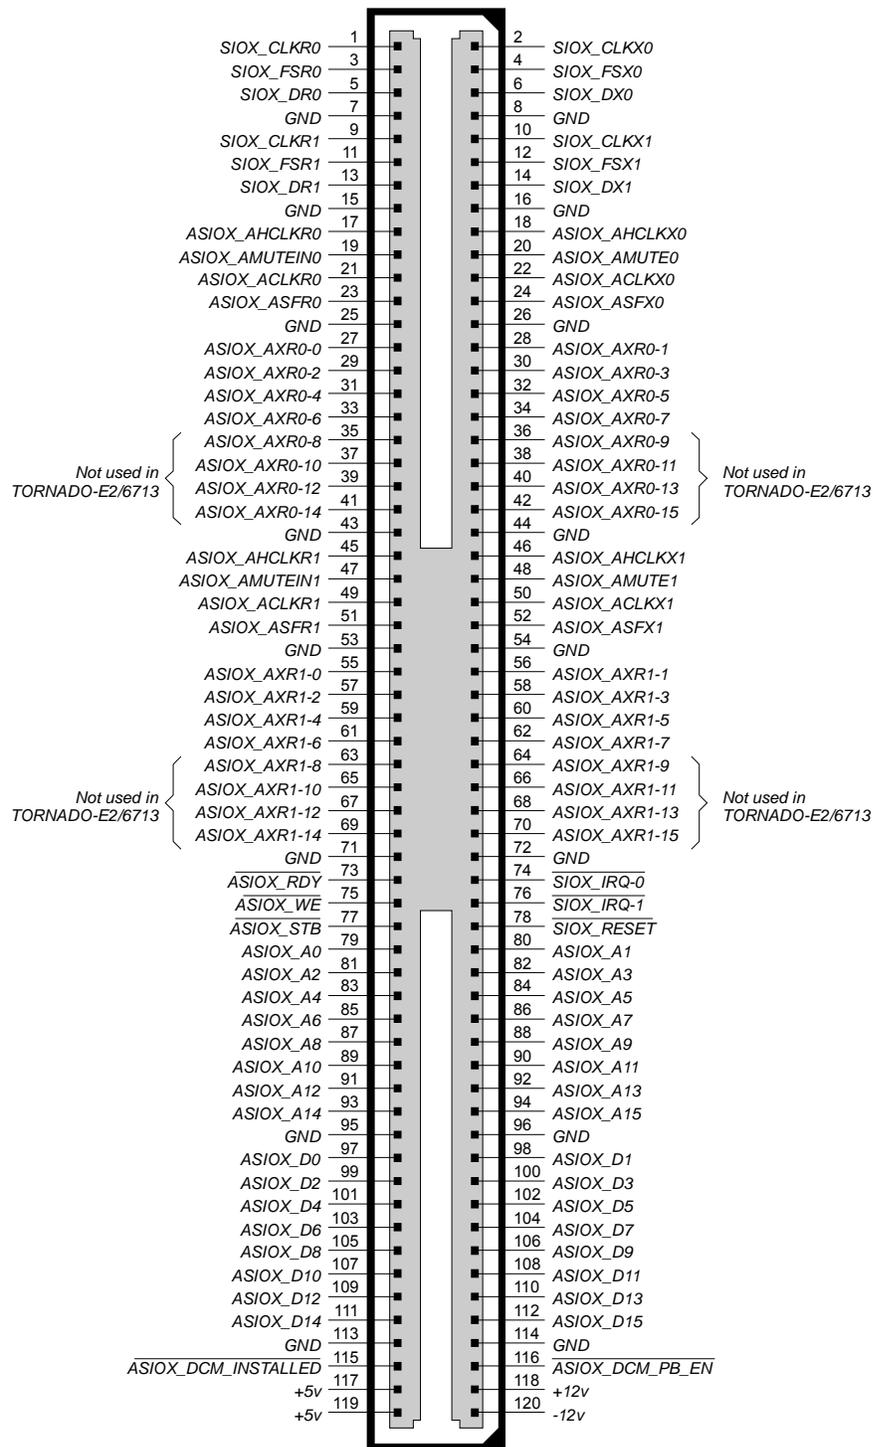

Figure C-5. ASIOX rev.D DCM site connector pinout (top view).
*ASIOX* rev.D DCM site connector pinout is shown at Figure C-5 and signal specifications are presented in Table C-2.